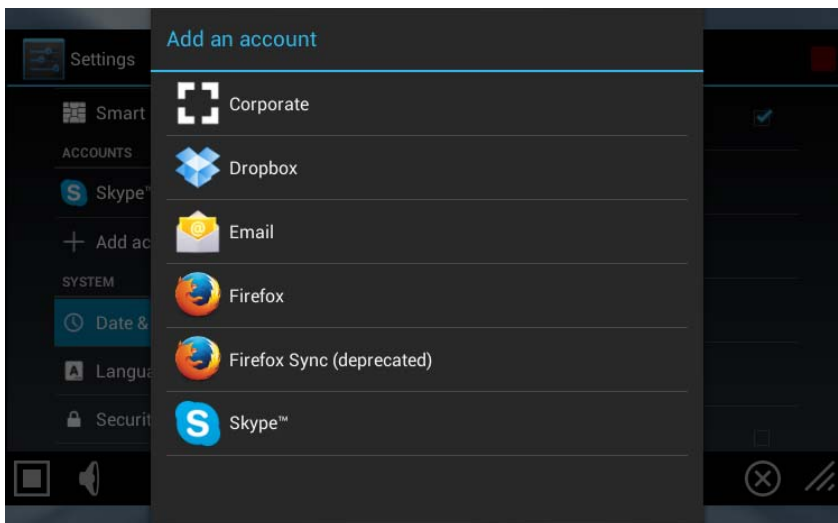

FIG. 76 Add an account page
G5 panels allow access to outside accounts, such as corporate and personal Email, Skype and Dropbox. These must be configured through the *Add an Account* section (FIG. 76) before they can be used with the panel.
2. In the *Add an Account* window, select the type of account you wish to add to the panel (see FIG. 76).